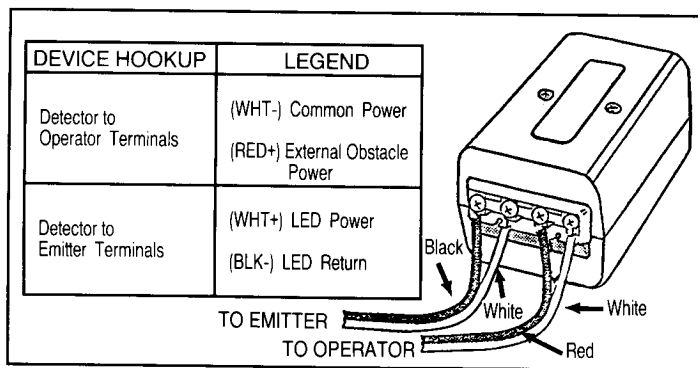

Figure 24
Step 46: Attach black striped wires to detector, run up and over the door to the terminals on the emitter. Attach wires to emitter terminals by color as shown on label. (See Figures 24). Use insulated staples to fasten wires to walls surrounding garage door.